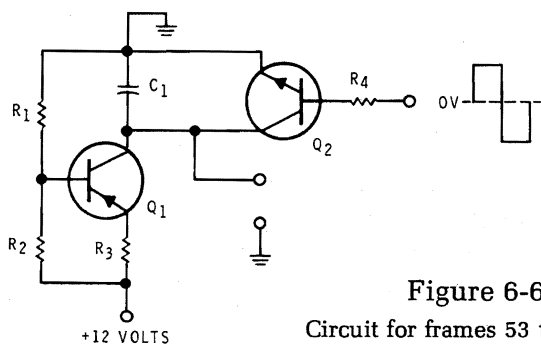

Figure 6-65
53. (discharge) Figure 6-65 shows another type of sawtooth generator. Here  $R_1$ ,  $R_2$ ,  $R_3$ , and  $Q_1$  form the \_\_\_\_\_.